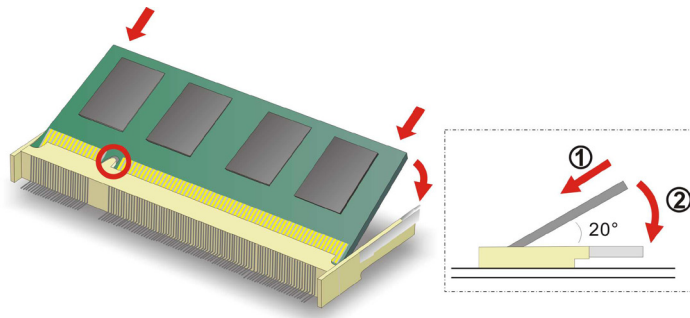

Figure 3-5: DDR4 SO-DIMM Module Installation
- Step 5:** Install the new DDR4 memory module by pushing it into the socket at an angle (**Figure 3-5**).
- Step 6:** Gently pull the spring retainer clips of the SO-DIMM socket out and push the rear of the DDR4 memory module down (**Figure 3-5**).